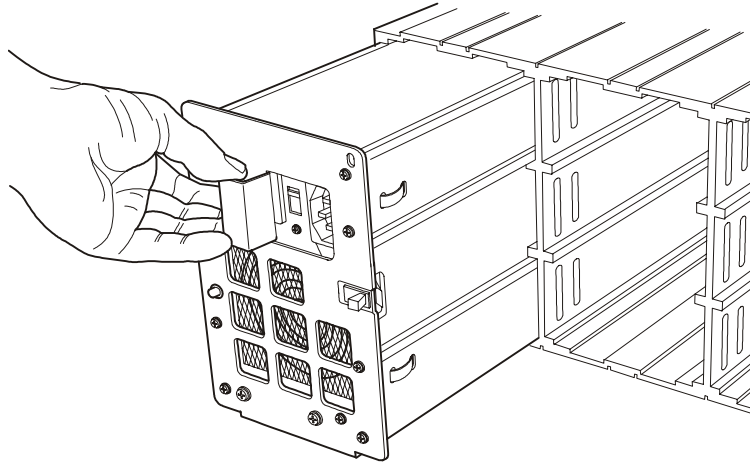

Figure 2-5 Installing a Power Supply/Cooling Module in Bay 4
- 5 Hold the latch while pushing the module gently home into the bay, ensure that it is fully engaged and that the retention latches are engaged into the chassis (See Figure 2-5).